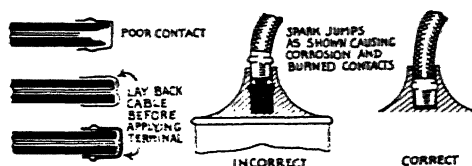

Fig. 25. High-Tension Terminals
**Caution.** Check all high-tension terminals. Be sure all terminals are tight and have good contact with wire. Refer to Fig. 25.